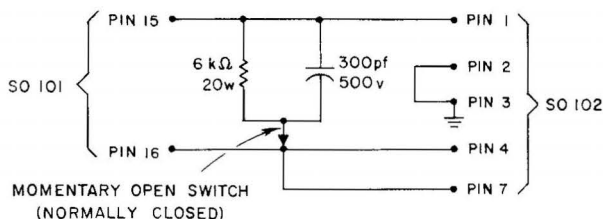

Figure 8. Schematic diagram of dummy load connections.
5.6.3 CONNECTIONS REQUIRED. The following connections (see Figure 8) should be made between output receptacles and to the dummy load for use as called for in subsequent paragraphs.